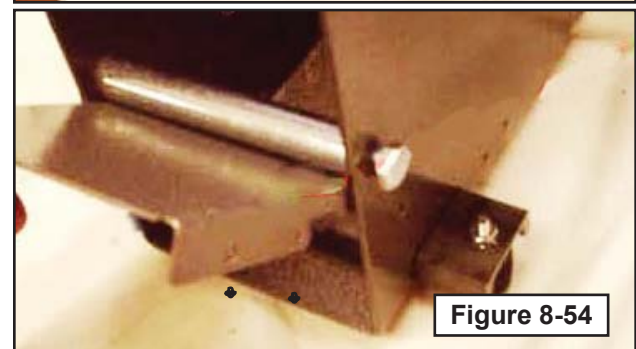

Figure 8-54
5. Attach four (4) screws to new ramp inside locate thicker end of the ramp toward rear of dispenser (Figure 8-54).